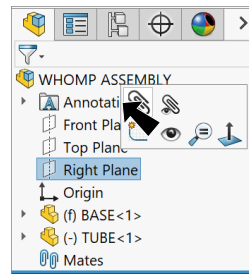

Fig. 3
Step 1. Click **Right Plane**  in the Feature Manager and **Mate**  on the context toolbar, **Fig. 3**.